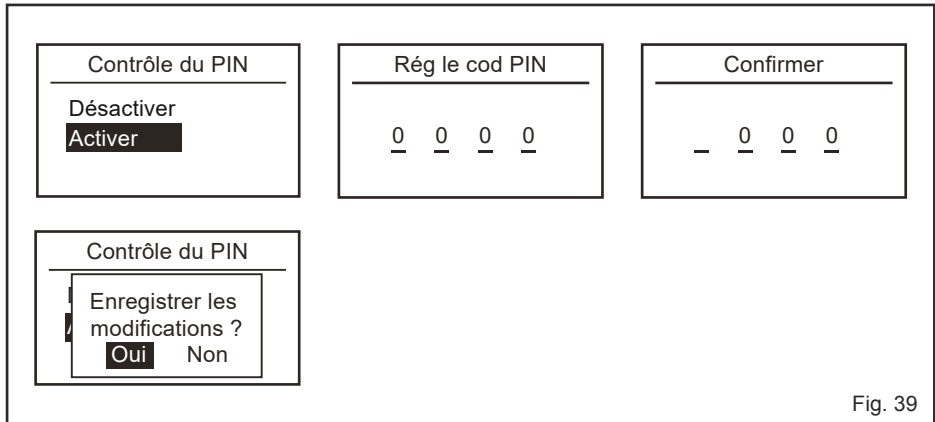

Fig. 39
1) Activation/désactivation du code PIN (Fig. 39)